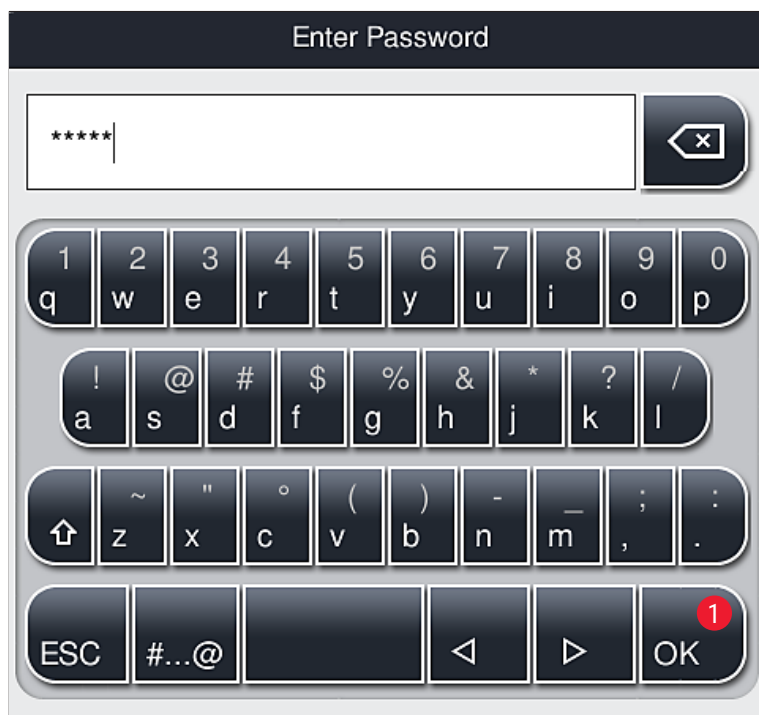

Fig. 28
- A keyboard (→ Fig. 28) is then displayed which can be used to enter the password.